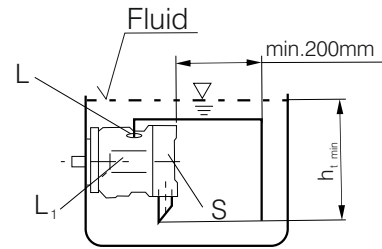

Fig.3
a) If the minimum fluid level is above the top of the pump, port "L" closed, "L" and "S" should remain open, L piped 1 and recommendation S piped (see Fig.3)